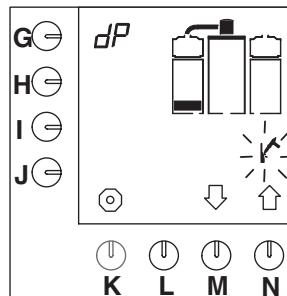

Fig. 17 First level descaling programme coffee-making system
- The first level block appears on the display and the hammer symbol flashes (fig.17 ).